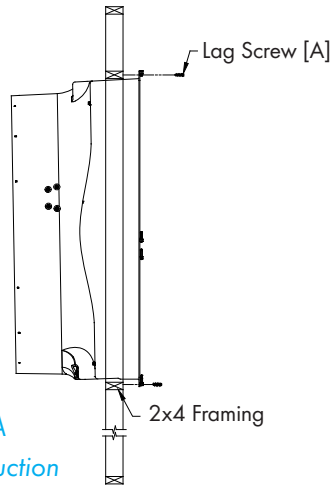

Figure 3A
Insert fan into framed opening from the inside. While lifting the fan up tight to framing, fasten top of fan with (3) Lag Screws [A]. See Figure 3A and 3B. Next fasten bottom of fan, then both sides with remaining (9) Lag Screws [A]. Install flashing around opening tight to fan and caulk around fan to seal.